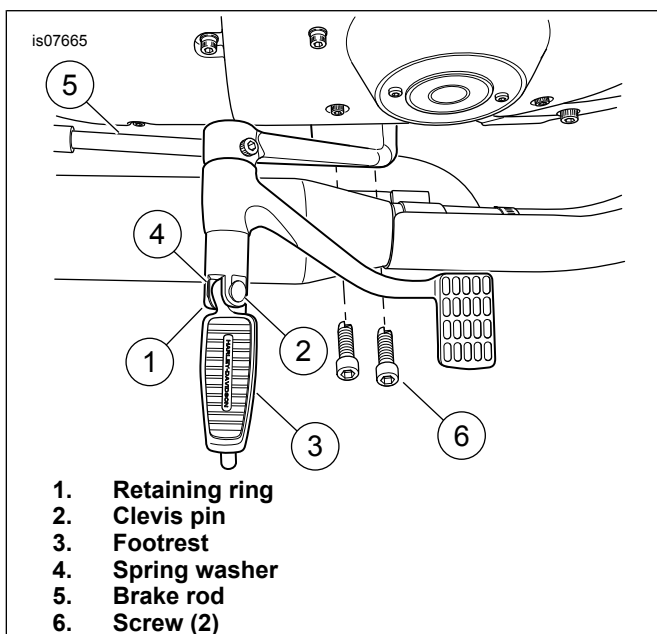

Figure 3. Remove Footrest Support and Brake Pedal
1. See Figure 3. Remove retaining ring (1), clevis pin (2), footrest (3) and spring washer (4).
- a. Discard retaining ring (1).
- b. Save footrest (3), clevis pin (2) and spring washer (4) for later installation.
2. Remove brake rod (5) from brake pedal and master cylinder push rod collar. Discard brake rod (5).
3. Remove screws (6).